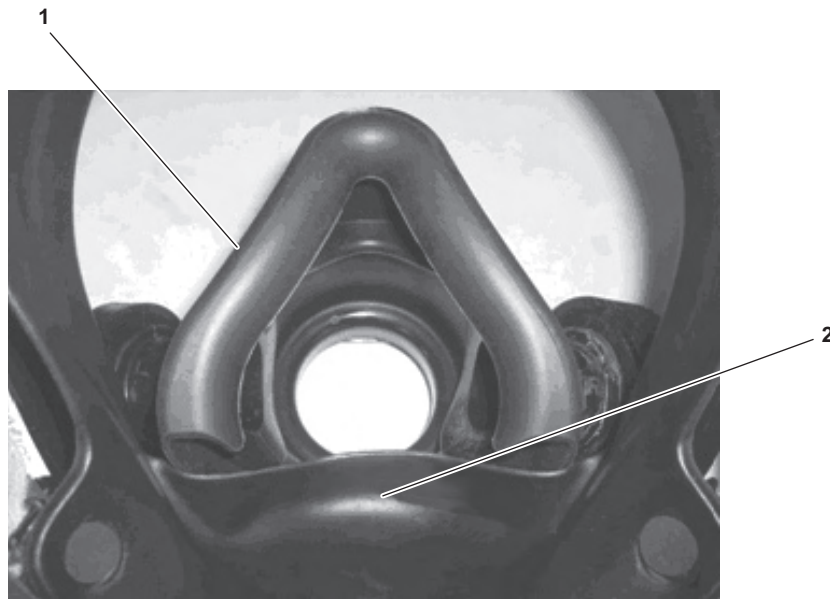

Figure 6-14. AV-3000® Chin Pocket Replacement
- (7) Verify that the nosecup assembly (figure 6-14, item 1) is not distorted. Ensure that the bottom of the nosecup assembly is behind chin pocket (figure 6-14, item 2).